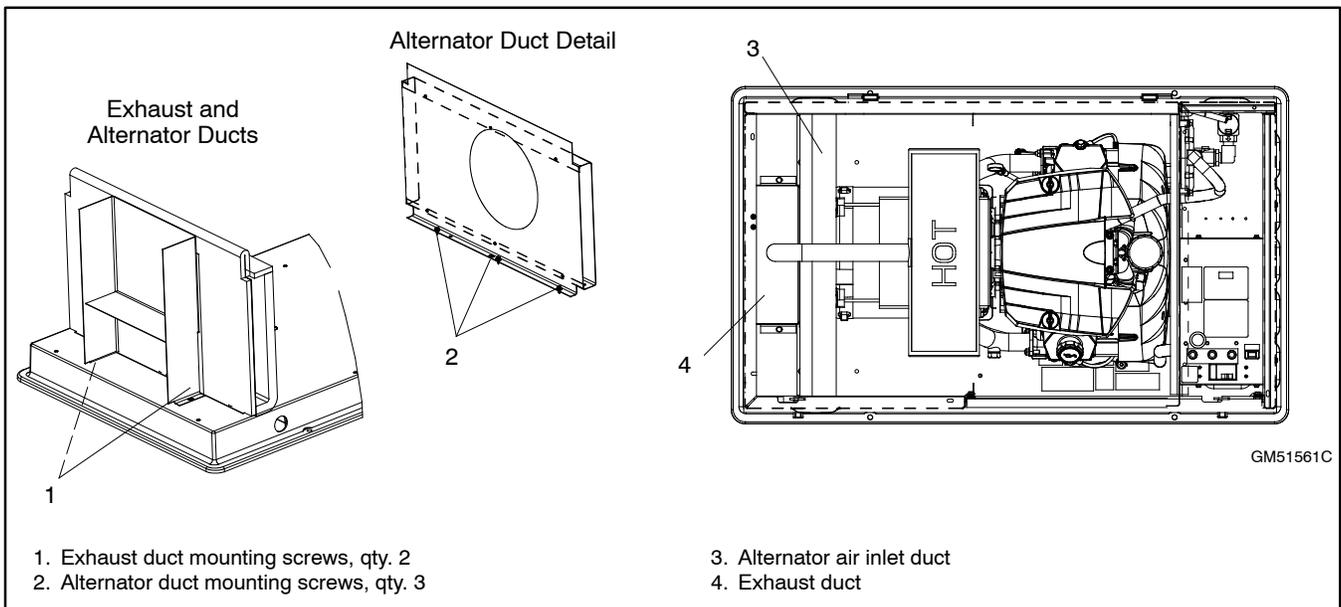

Figure 6-24 Alternator Air Inlet Duct
- 8. Reinstall the alternator air inlet duct. Orient the duct as shown in Figure 6-24.
- 9. Install the exhaust duct. See Figure 6-24.